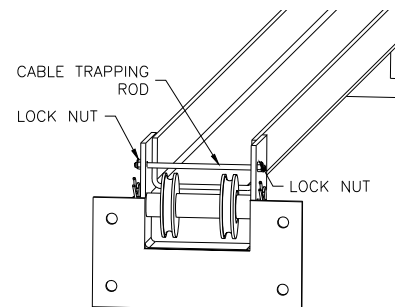

Fig. 5-Cable Trapping
- 8) **Complete steps 5 through 7 for the five (5) anchors (one at a time) around each column.**
- 9) Shim both columns to plumb using the shims provided as shown in **Fig. 5**. DO NOT shim more than 1/2" at any given point. Use a level no less than 24" in length to plumb columns.
- 18) At the upper beam sheave locations disassemble and reassemble the cable trapping rod to install the cable onto the sheave as shown in **Fig 5**. At base of columns, bottom sheave will need to be removed then reassembled.